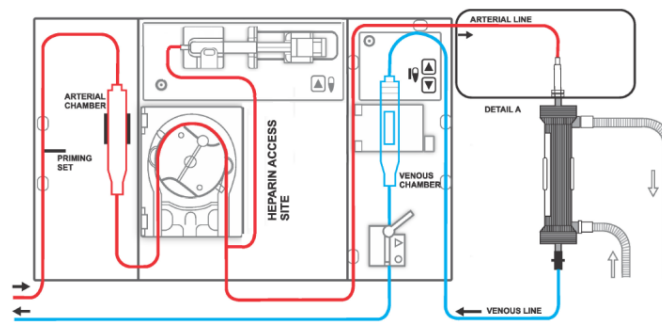

Figure 3: Bloodline/Machine Interface of Hemodialysis Machine
- Roll the venous drip chamber into the venous level detector with filter below sensor heads. See Figure 3. Close and latch door.